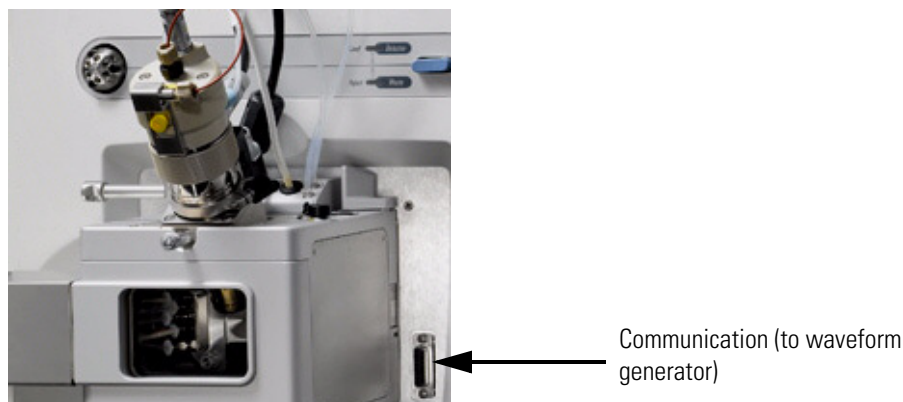
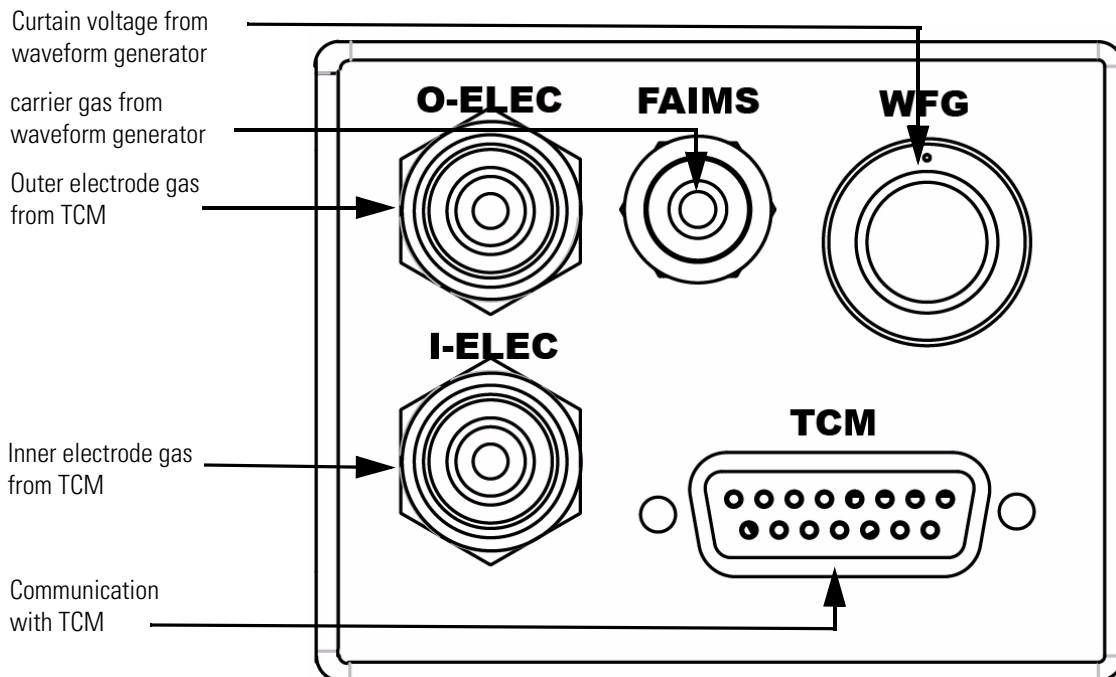

Figure 52. 15-pin connector on LTO
Figure 54. Connection panel on the FAIMS interface heater box
Carrier gasses are supplied to the FAIMS system through three quick-disconnect fittings on the connection panel of the waveform generator. These inlet gas ports are labeled He, N₂, and CO₂. Figure 52 shows the connection panel of the FAIMS waveform generator.
Figure 54 shows the connection panel on the heater box of the FAIMS interface.
3. Using $\frac{1}{4}$ in. OD tubing, connect the O-ELEC ports on the temperature control module and FAIMS interface heater box, as Figure 54 shows.
1. Connect one end of the Fischer cable to the BIAS/CURTAIN VOLTAGE connector on the connection panel of the FAIMS waveform generator (Figure 52) and the other end to the WFG connector on the FAIMS interface heater box, as Figure 54 shows.
2. Connect the heater cable between the HEATER connector on the temperature control module, as Figure 53 shows, and the TCM connector on the FAIMS interface heater box, as Figure 54 shows.
3. Connect the interlock cable between the MS CONTROL connector on the waveform generator, as Figure 52 shows, and the connector on the Ion Max housing.